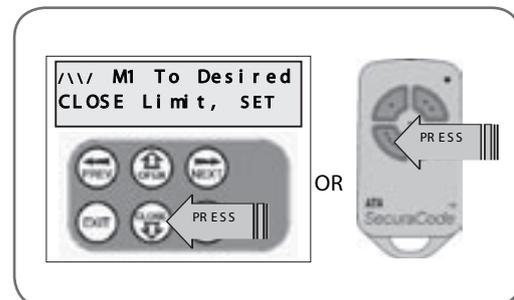

fig 15
1. Press CLOSE to move gate to the desired CLOSE LIMIT (or press button 4 on transmitter) (**Fig. 15**).